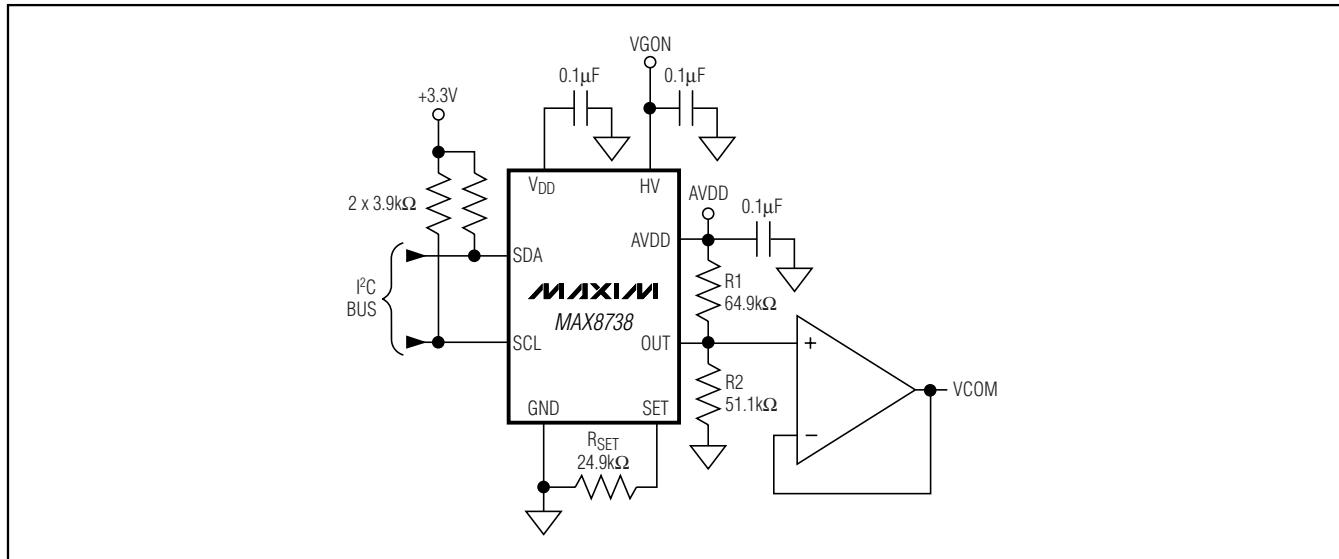
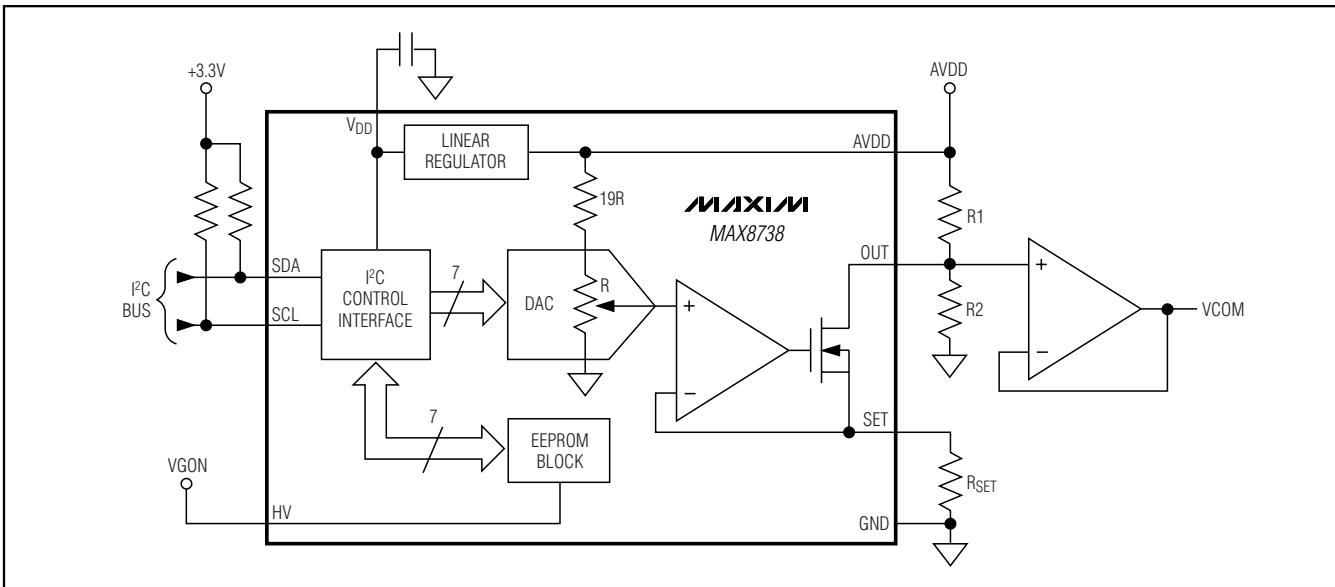

Figure 2. Standard Application Circuit
Figure 3. Simplified Functional Diagram
The MAX8738 is a solid-state alternative to mechanical potentiometers used for adjusting the LCD backplane voltage (VCOM) in TFT LCD displays. The MAX8738 attaches to an external resistive voltage-divider and sinks a programmable current ( $I_{OUT}$ ), which sets the VCOM level (Figure 2). An internal 7-bit DAC controls the sink current and allows the user to increase or decrease the VCOM level (Figure 3). The DAC is ratio-metric relative to  $V_{AVDD}$  and is monotonic over all operating conditions. The user can store the DAC setting in an internal EEPROM. On power-up, the EEPROM presets the DAC to the last stored setting. The 2-wire I2C interface between the LCD panel and the programming circuit adjusts the DAC and programs the EEPROM.
- 1) Place the VCOM buffer and the R1/R2 voltage-divider close to the OUT pin (Figure 2).